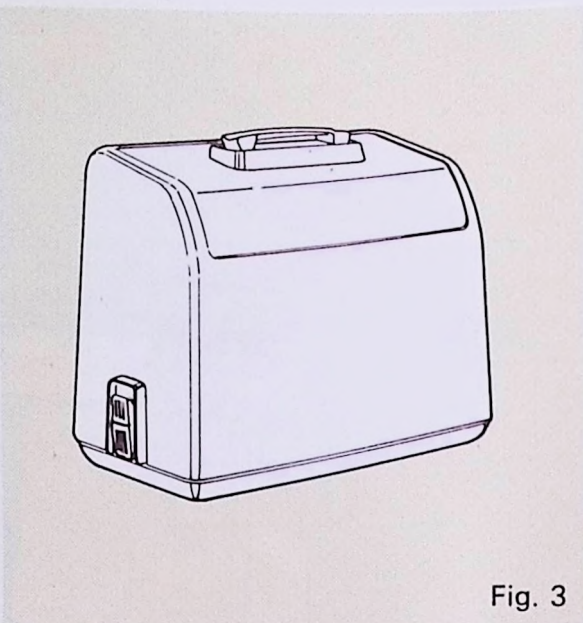

Fig. 3
- "SEARS" on handle facing you. The case slopes in the same direction of the machine. (Fig. 3)